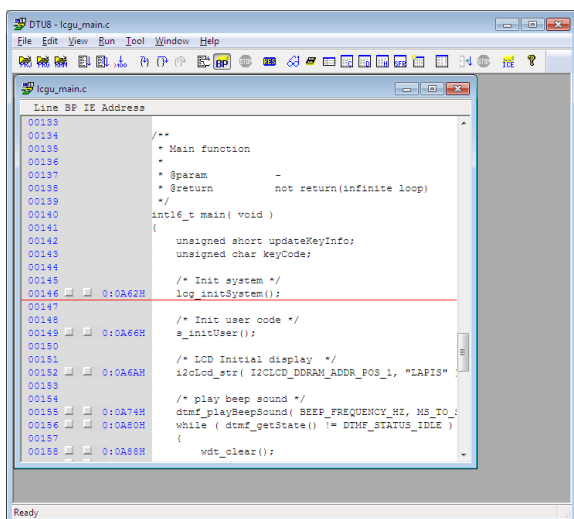

Figure 9 The DTU8 debugger
- 7-7. Click the [OK] button when a confirmation dialog box will be displayed that asks the user whether to start debugging. The DTU8 debugger will load the DTMF Sample Program. After finishing loading, the DTU8 debugger will display a source window as the following Figure 9.